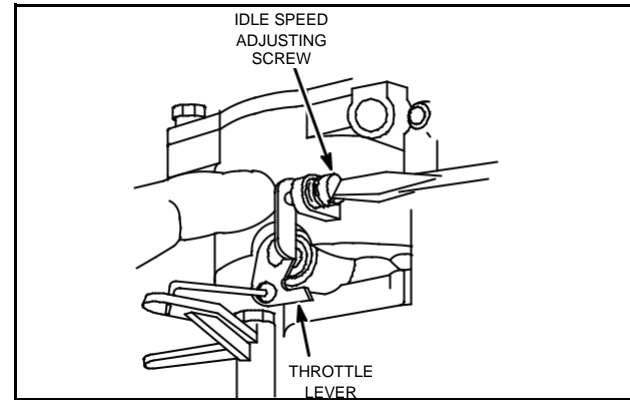

Fig. 48 – Adjust Idle Speed
2. Hold throttle lever against idle speed screw and temporarily adjust idle to 1300 RPM, Fig. 48.